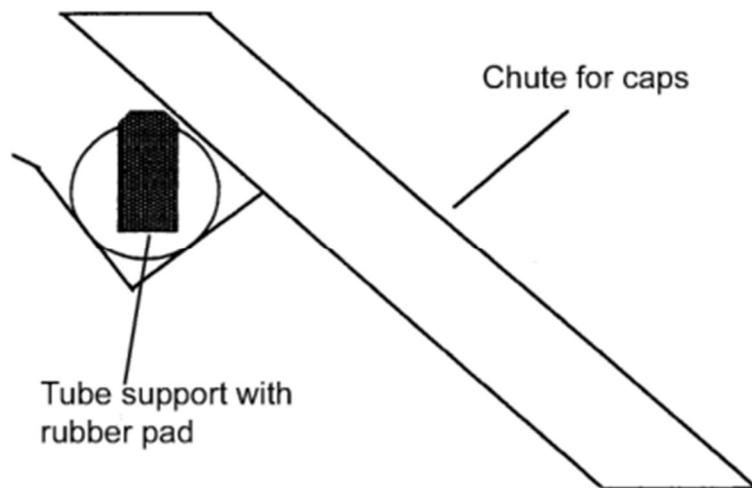

Figure 4: Chute attached on Pluggo, right hand side is standard
3. Hold the chute with the clip attached to it directed downwards. Clip the chute onto the round white plastic cylinder directly under the de-capper arm. The chute should now be extending to the right of the unit, on the same side as the power switch and controls are located. **See figure 4.**